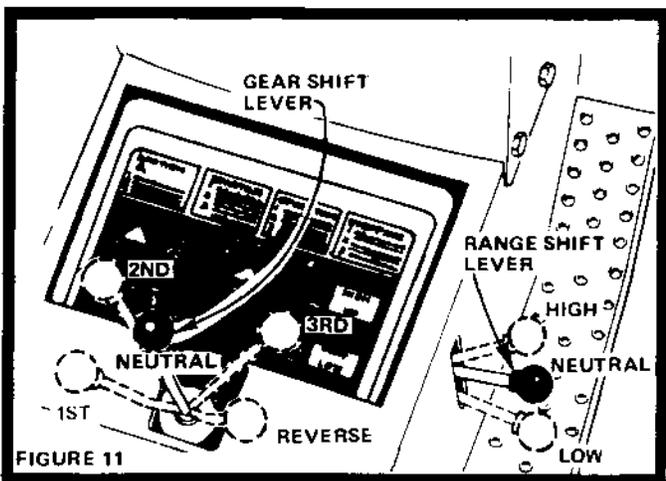

FIGURE 11
3. Place Gear Shift Lever in neutral "N" position (Fig. 11).
4. Move Range Shift Lever to "N" neutral position (Fig. 11).
For pushing or towing your tractor, place Gear Shift Lever and Range Shift Lever in neutral position (Fig. 11). NOTE: DO NOT TOW YOUR TRACTOR FASTER THAN SIX MILES PER HOUR.